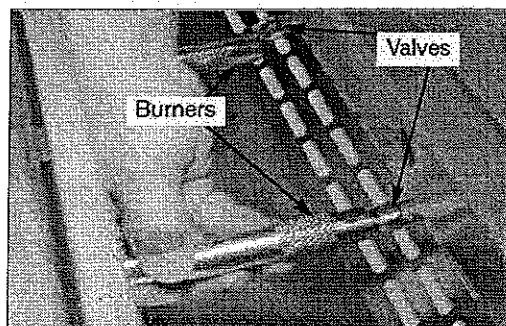

Fig 17
23. Reinstall burners into the grill body. Line up the burners with the valves on the manifold, making sure the orifice of the valve slide into the burners. (See Fig. 17)